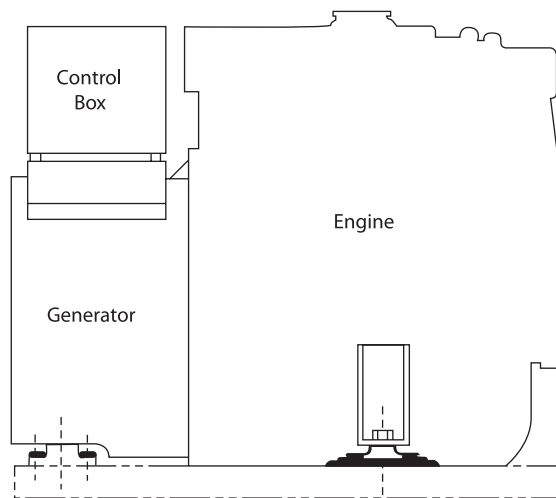

Figure 17: Composition.
1. A Generator Set includes the engine, the generator, and the control or "J" box (Figure 17).